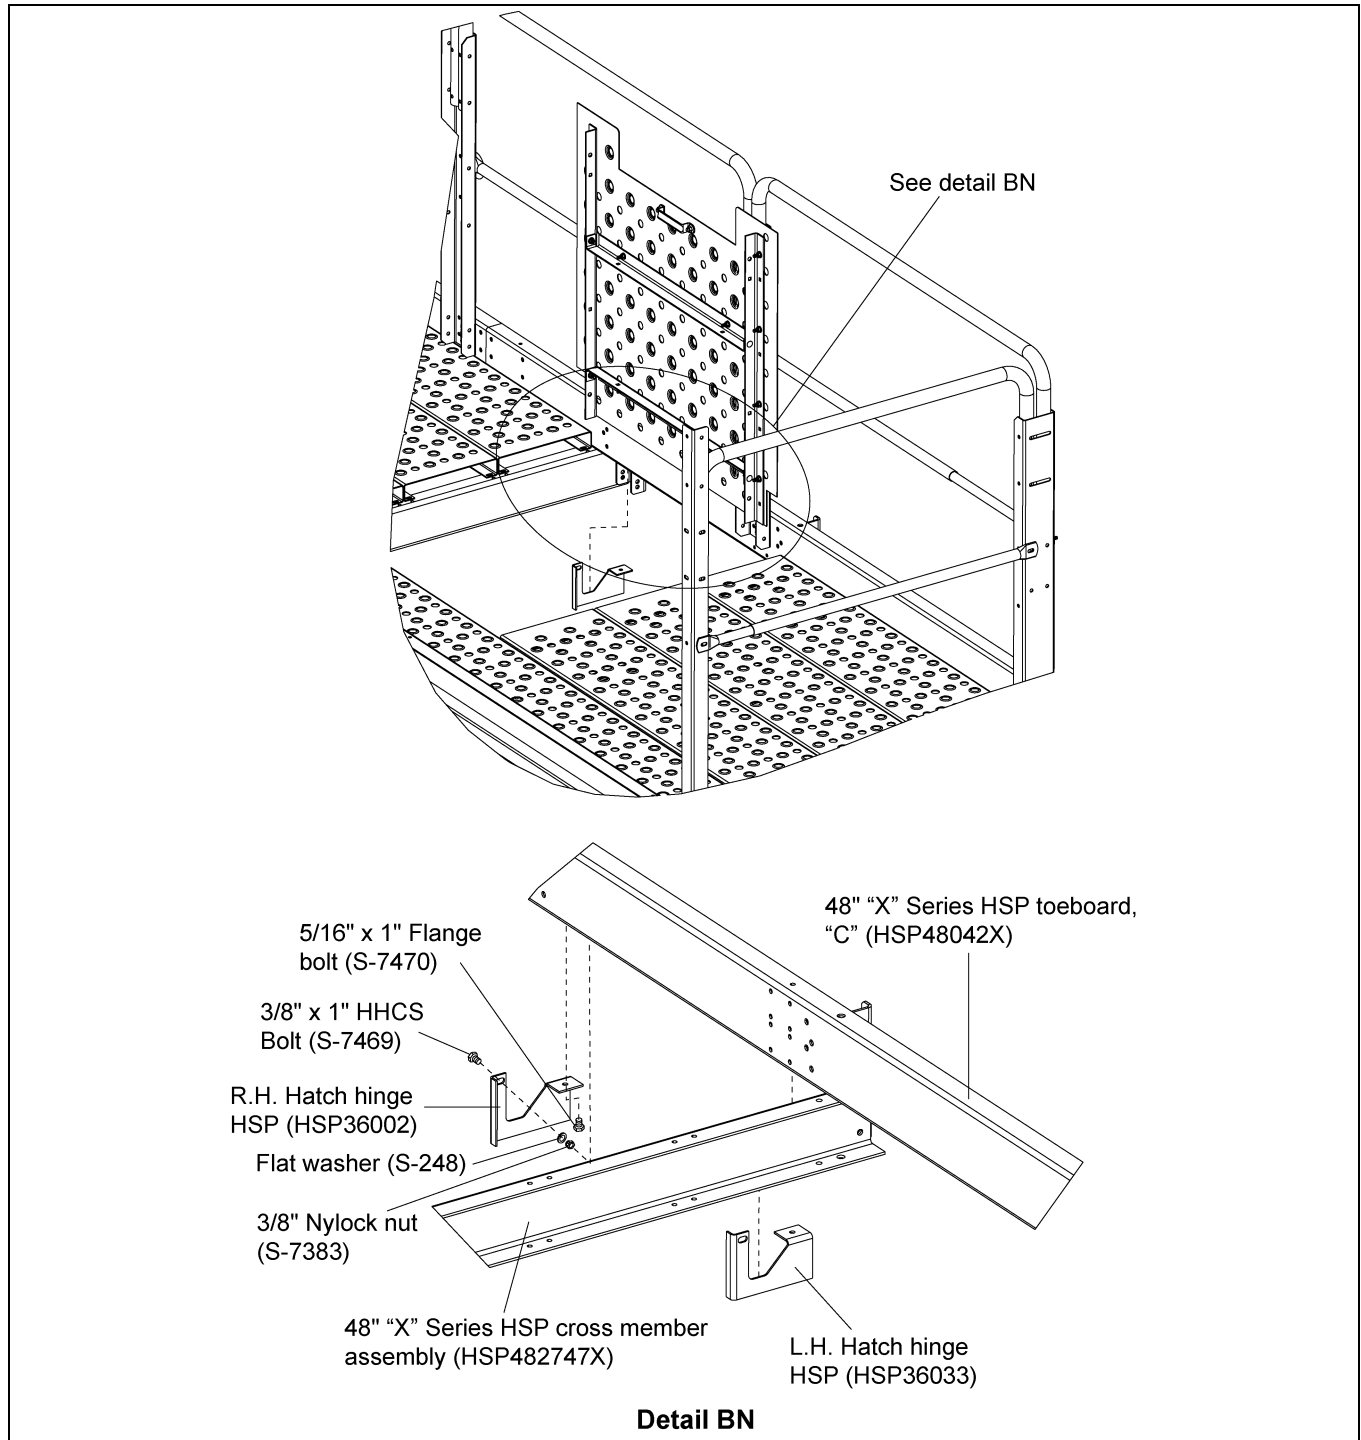
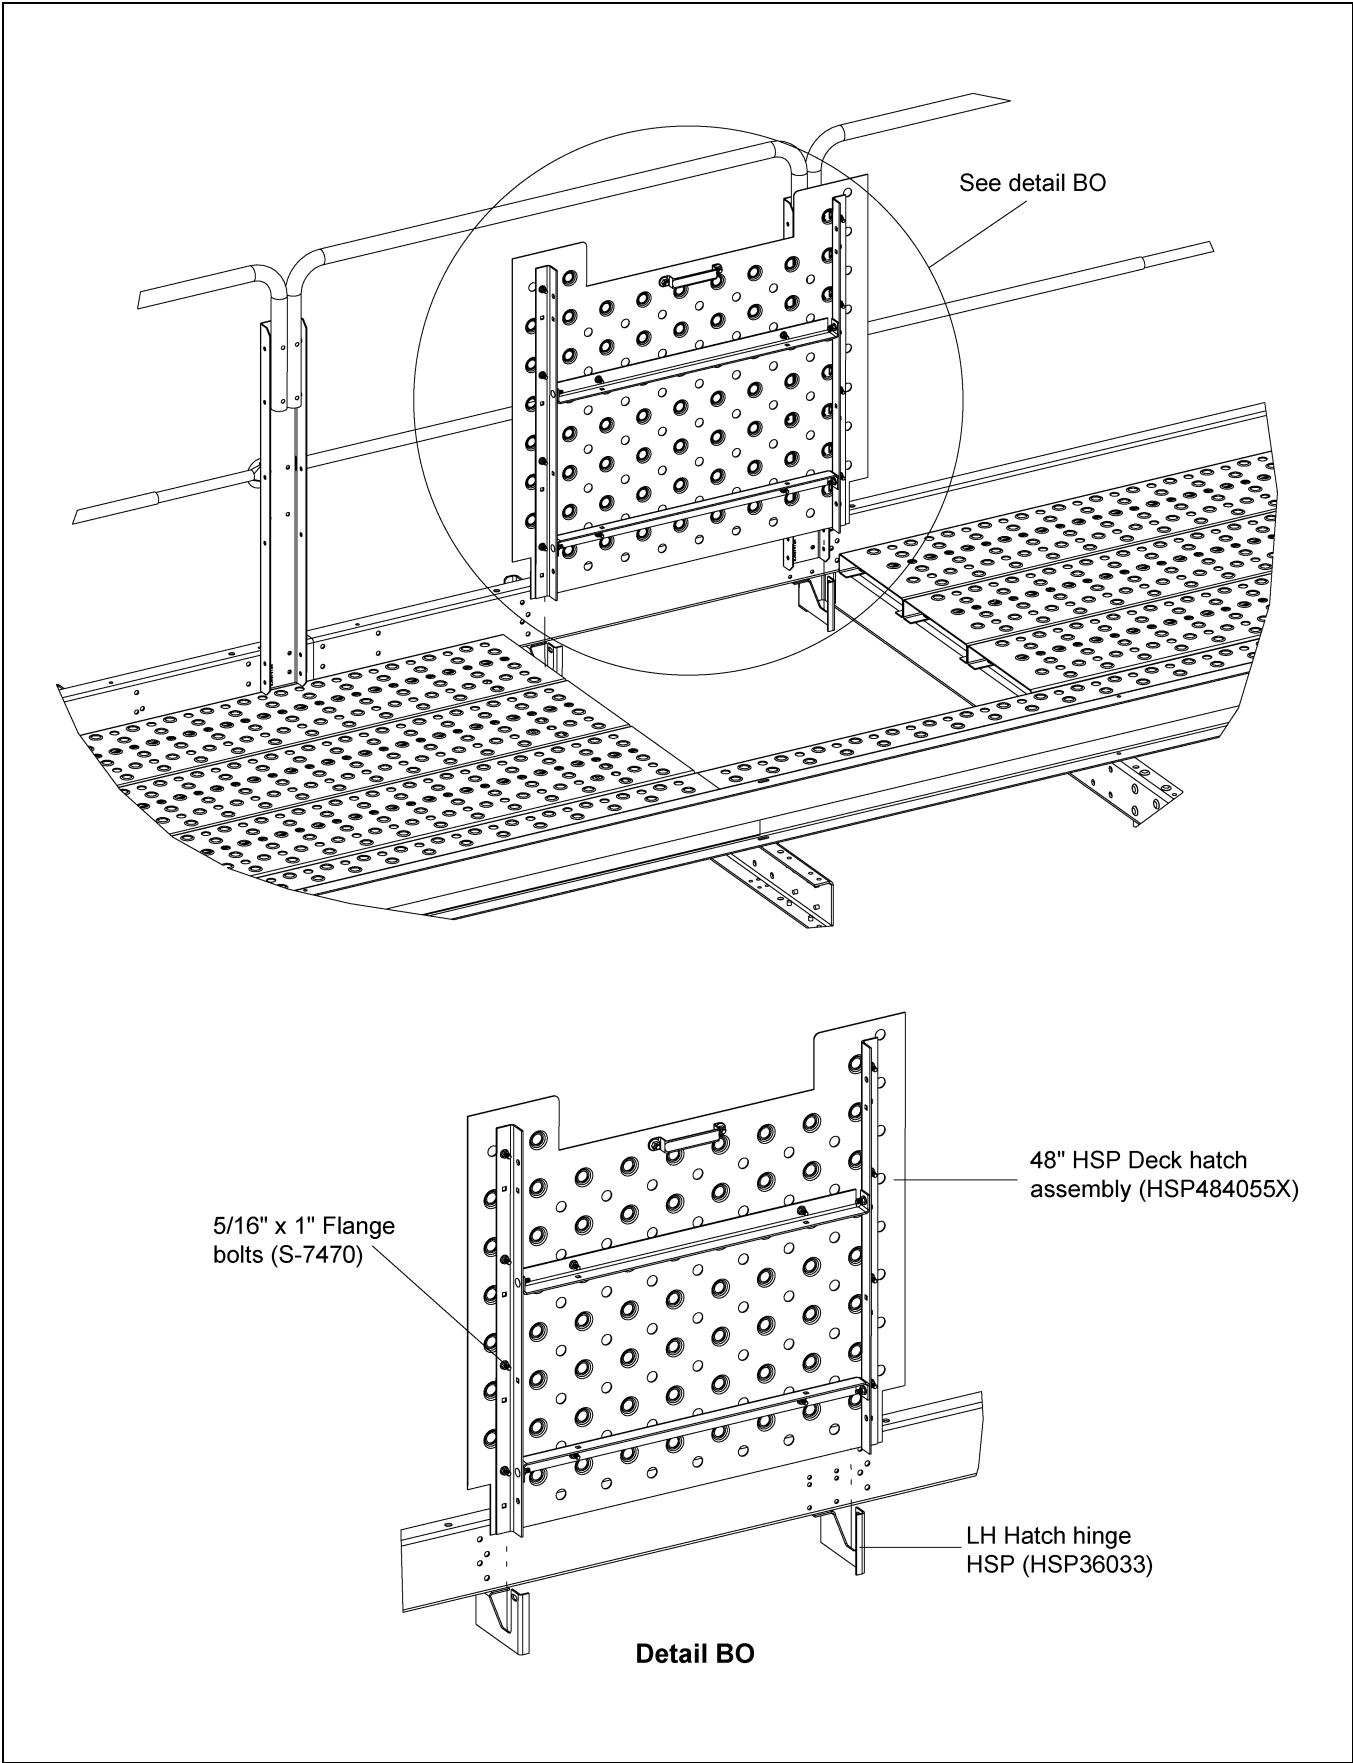

Figure 9T
Figure 9U
3. Fasten together using 3/8" x 1" HHCS bolts (S-7469), 3/8" washers (S-248) and 3/8" nylock nuts. (See Figure 9T below and Figure 9U on Page 90.)